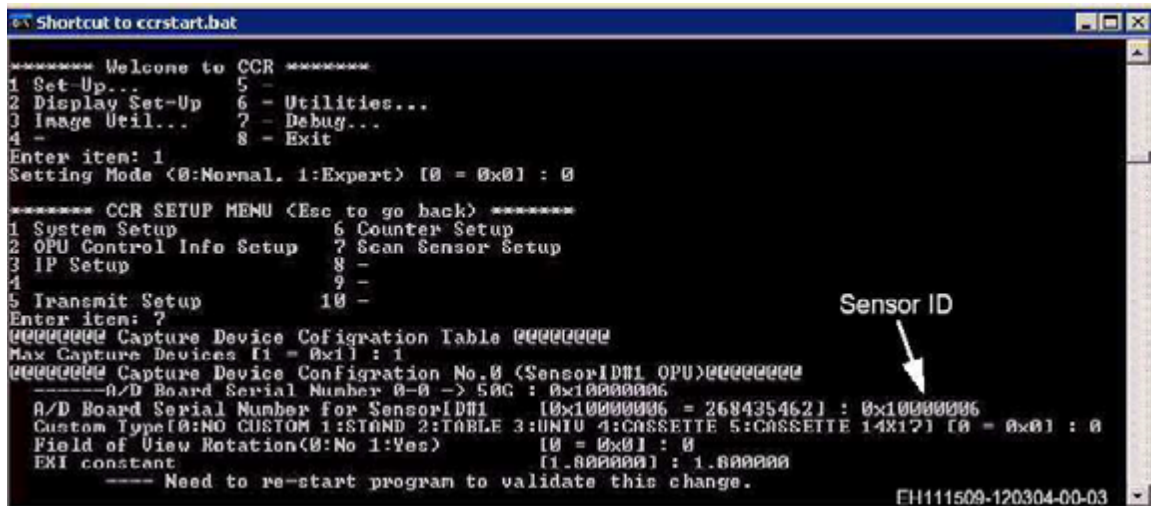

Fig. 94: Serial number
- ⇒ The following DOS menu is displayed (Fig. 94 / p. 98).